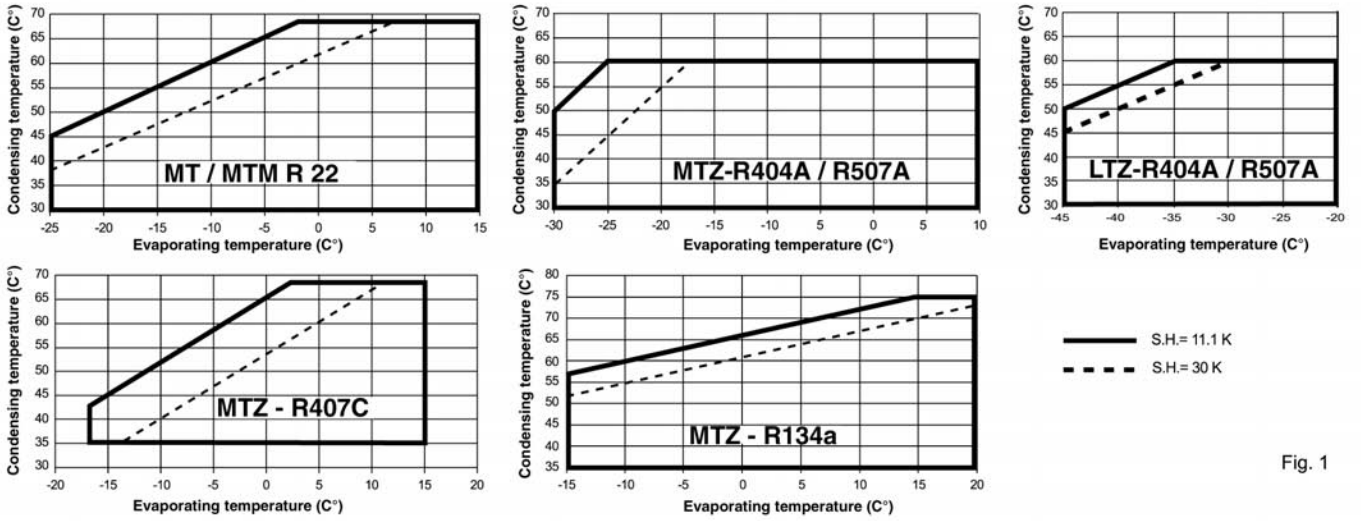

Fig. 1
• Maneurop® compressors must only be used for their designed purpose(s) and within their scope of application (refer to Fig. 1).